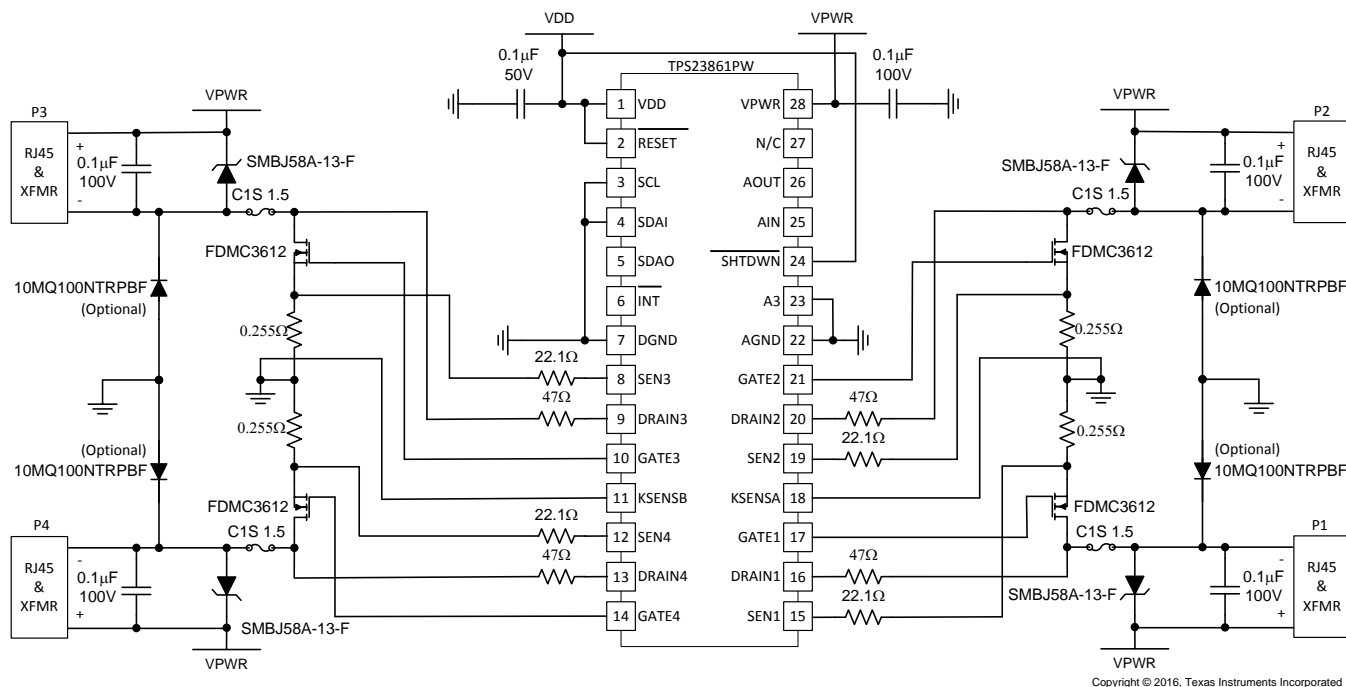

Figure 46. Automatic 4-Port Operation Schematic
Power-over-Ethernet (PoE) is a means of distributing power to Ethernet devices over the Ethernet cable using either data or spare pairs. PoE eliminates the need for power supplies at the Ethernet device. Common applications of PoE are security cameras, IP Phones and PDA chargers. The host or mid-span equipment that supplies power is the Power Source Equipment (PSE). The load at the Ethernet connector is the Powered device (PD). PoE protocol between PSE and PD controlling power to the load is specified by IEEE Std 802.3at-2009. Transformers are used at Ethernet host ports, mid-spans and hubs, to interface data to the cable. A DC voltage can be applied to the center tap of the transformer with no effect on the data signals. As in any power transmission line, a relatively high 48 V is used to keep current low, minimize the effect of IR drops in the line and preserve power to the load. Standard POE delivers approximately 13 W to a type 1 PD, and 25.5 W to a type 2 PD. Figure 46 shows the overview schematic of a POE port.
The schematic of Figure 46 depicts automatic mode operation of the TPS23861, providing turnkey functionality ready to power PoE loads. No connection to the I²C bus or any type of host control is required. In Figure 46 the TPS23861 automatically: